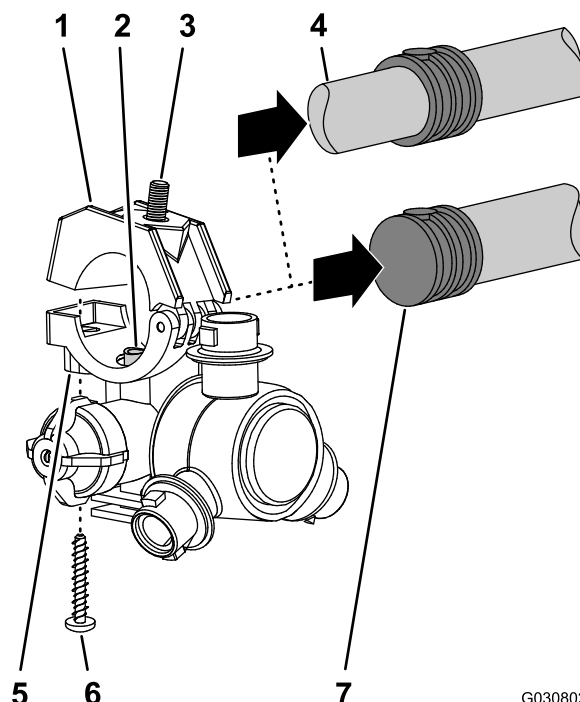

Figure 119
5. Working with the 8 sprayer nozzles that you removed in step 1, remove the stainless steel screws (#12 x 1-1/4 inches) that secures the upper clamp halves and the double or single barbed-hose shanks (3/4 inch) to the body of each of the sprayer nozzle, and remove the barbed-hose shanks (Figure 119).